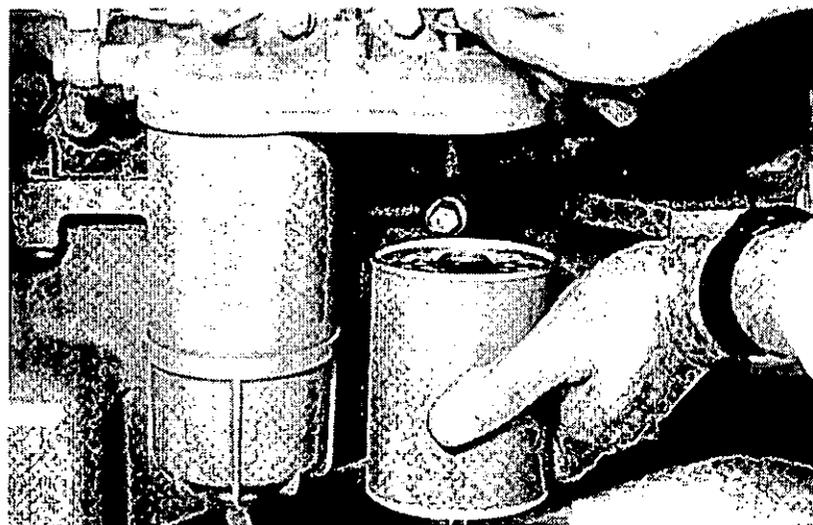

Fig. 14 Fuel filter element removal
- 2 Hold the filter bowls and release the setscrews that are fitted in the filter head above the centre of each filter element. Remove the filter elements and bowls (see fig. 14).